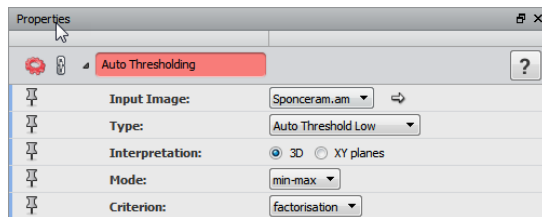

Figure 20.5: Auto Thresholding Module Configuration
2. Separate the void of the material using an *Auto Thresholding* module. Set the *Type* port to *Auto Threshold Low*. It will create two outputs `Sponceram.info` and `Sponceram.labels` (see Figure 20.5).